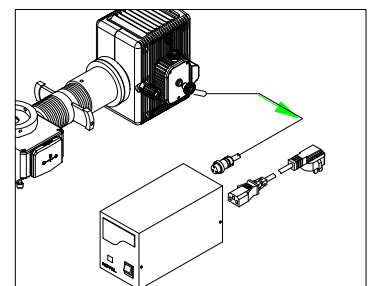

Fig. 7
**2.10 Connecting the power cord of fluorescence power (Fig.7)**
- 1) Check if the frequency switch (a) and the voltage switch (d) at the back of power supply are correct. If not, slide them to the correct position.(see Fig.7)
- 2) Turn the power switch (35) to "O" (off) position. Plug the power cord to the power outlet.
- 3) Turn the power switch (35) to "I" (on) position to light the mercury lamp. The mercury lamp will be steady condition after 5-10min.
- 4) For first time use, some of the new mercury lamp may not work after you turn the power on. Keep the power switch at "I" (on) position and press the trigger button (34) less then 4 seconds. If it still doesn't work, repeat the procedures again.